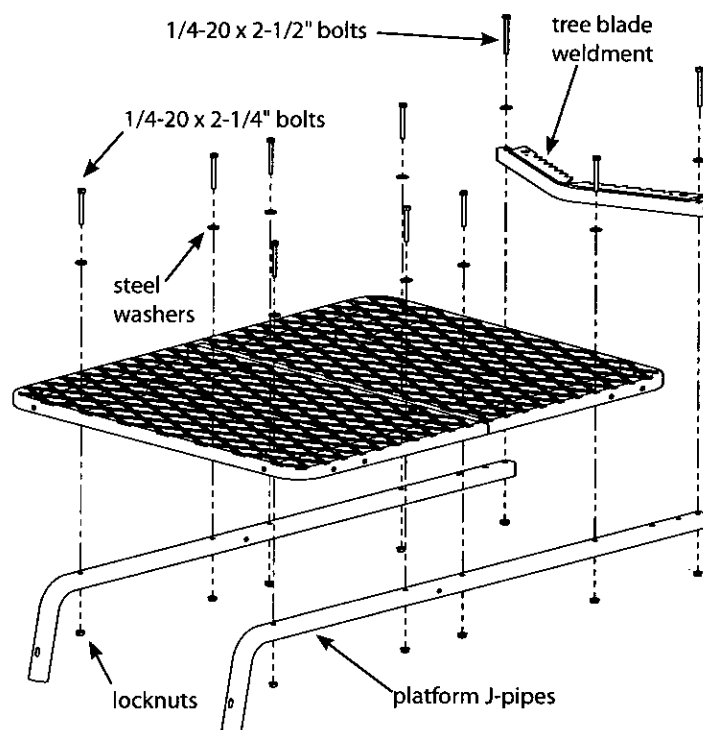

Figure 2
2. Attach the (2) platforms (410000) to the platform J-pipes (410003) using (8) provided 1/4-20 x 2-1/4" bolts, locknuts and steel washers. **SEE FIGURE 2.**
3. Attach the tree blade weldment (2ML130) to the platform J-pipes using (2) provided 1/4-20 x 2-1/2" bolts, locknuts and steel washers. **SEE FIGURE 2.**